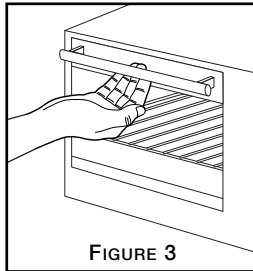

FIGURE 3
Step 1: Grab the center of the handle underhanded with fingertips (*See Figure 3*).